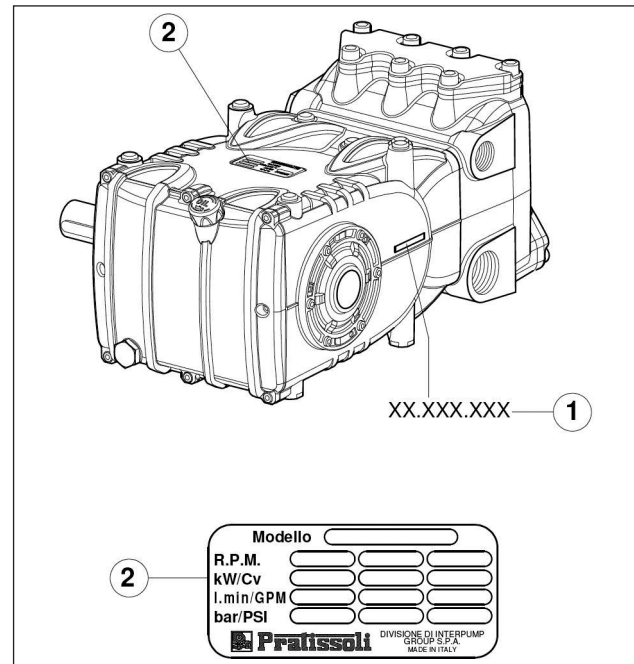

Fig. 1
Each pump has its own Serial No. XX.XXX.XXX see pos. ① and an identification plate see point pos. ② of Fig. 1 which shows: